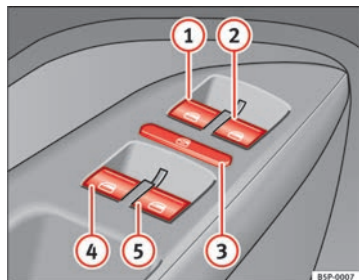

Fig. 67 Detail of the driver door: controls for the front and rear windows
The buttons ⇒ fig. 67 ① and ② have two levels for opening the window and two for closing it. This makes it easier to open and close windows to the desired position.